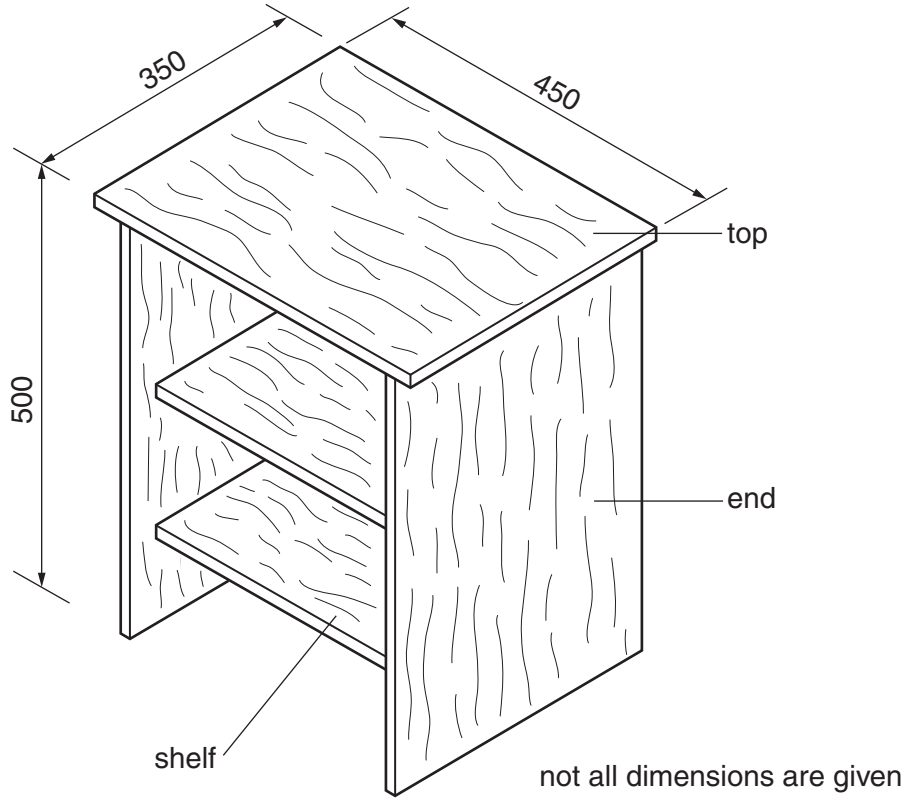

Fig. 9
- 11** Fig. 9 shows a storage unit. A printer will be placed on top of the unit, which will be positioned under a desk. The unit has shelves that will be used to store printer paper.